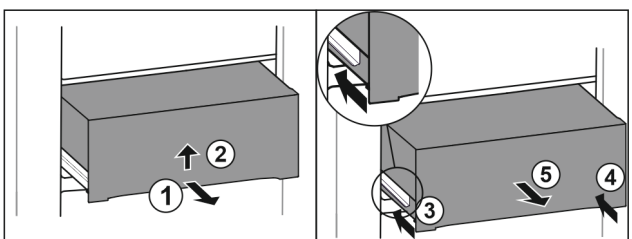

Fig. 48
- ▶ Pull out drawer half-way. Fig. 48 (1)
- ▶ Lift the drawer from the bottom. Fig. 48 (2)
- ▶ Insert left rail. Fig. 48 (3)
- ▶ Insert right rail. Fig. 48 (4)
- ▶ Remove drawer to the front. Fig. 48 (5)